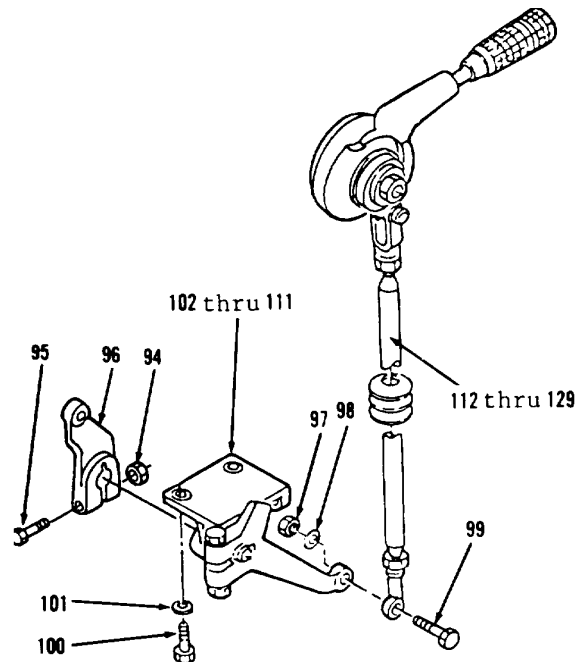
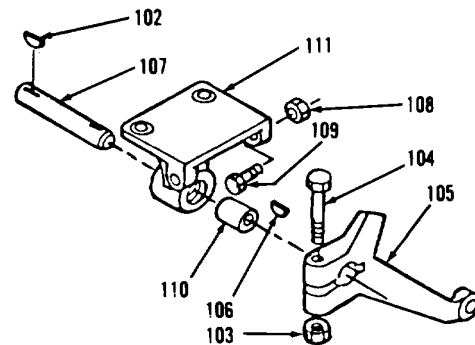

Figure 3-168.
Figure 3-169.
- 68. Remove nut (94) and bolt (95, Figure 3-168).
- 69. Remove lever (96)
- 70. Remove nut (97), washer (98) and bolt (99) from items 112 thru 129 as an assembly.
- 71. Support items 102 thru 111 as an assembly under right side of operator's compartment.
- 72. Remove two bolts (100), washers (101) and items 102 thru 111 as an assembly.
- 73. Remove key (102, Figure 3-169).
- 74. Remove nut (103) and bolt (104).
- 75. Remove lever (105) and key (106) from shaft (107).
- 76. Remove shaft (107) from bracket (111).
- 77. Remove two nuts (108) and bolts (109).